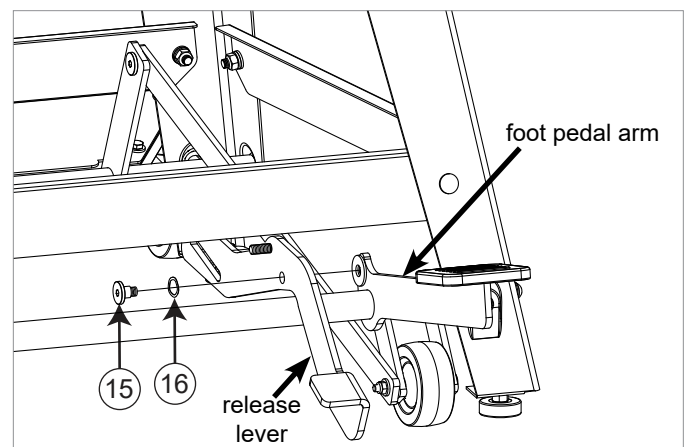

Fig. 12
12. The release lever attaches to the foot pedal arm of the wheel support. The release lever includes a non-threaded hole, roughly in the middle of the lever, that aligns with a threaded hole in the foot pedal arm, as shown in Fig. 12. Place the M10.5 x 14.5 wave washer over the shoulder of the M8 x 17.7 shoulder socket screw. Then insert the shoulder socket screw through the non-threaded hole in the release lever so that the hole fits over the screw's shoulder, and then thread the screw into the hole on the foot pedal arm. Fully tighten the screw with a 5 mm hex key.